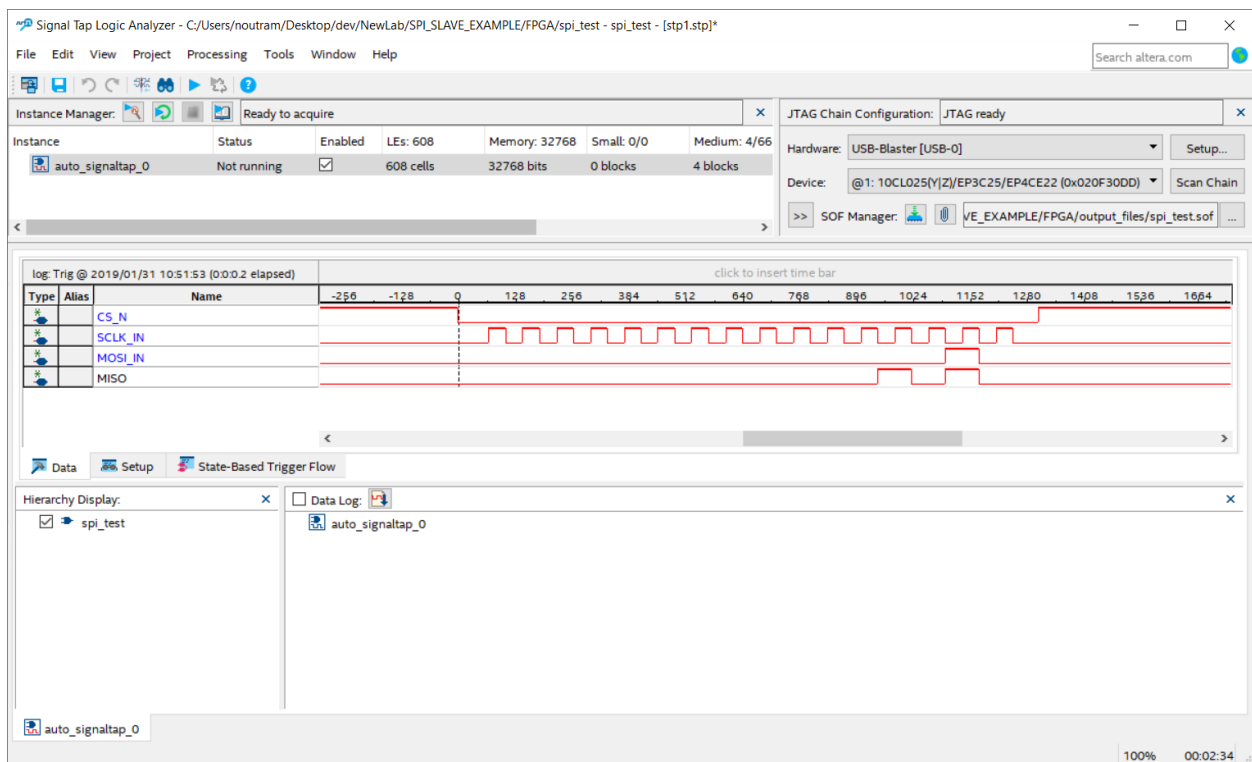

Figure 4. Example Signal Tap output for the SPI example
3. Click the program button (3) to deploy the design
4. Click the capture button (4) or press F5 to capture the data. You should see a timing diagram similar to that in Figure 4 appear. Note the data on MOSI and MISO will vary depending on timing and the DIP switch positions.